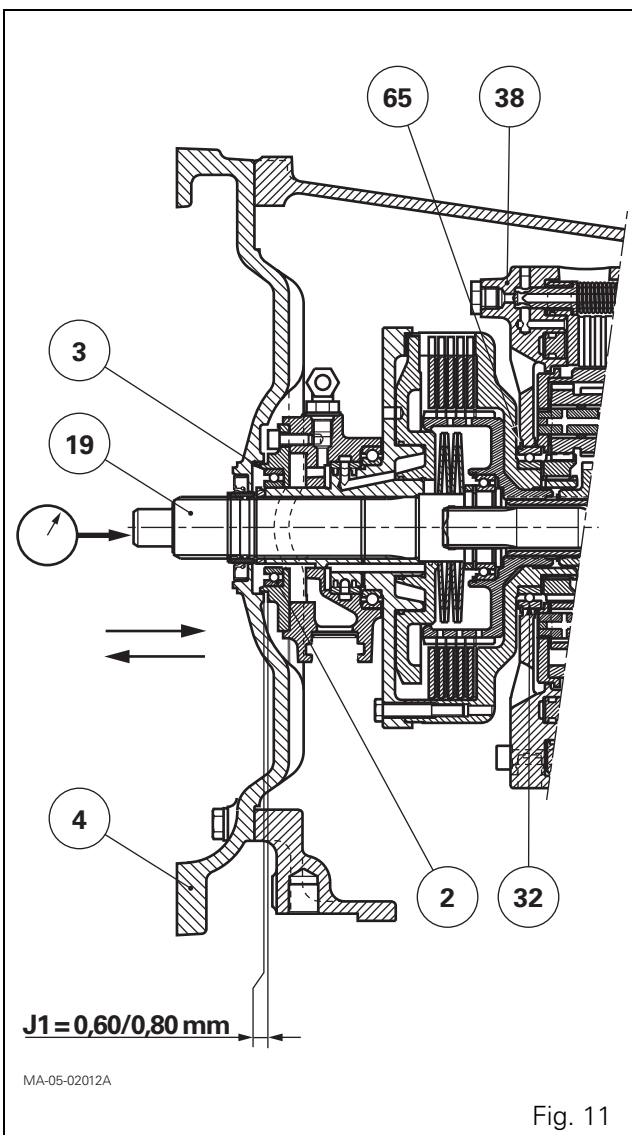

Fig. 11
This operation involves obtaining an axial clearance J1 of 0.60 to 0.80 mm between the pump cover plate (2) and the spacer (4) (Fig. 11).
61. Fit an approx. 2 mm thick shim (3) onto the cover plate (2) (Fig. 11).
62. Lubricate the lip of the seal (10). Protect the lip of the seal by fitting a guard (see chapter 3) on the splines of the shaft (19). Fit two guide studs on diametrically opposed sides of the gearbox housing and temporarily refit the spacer (4) without Loctite. Gradually tighten several screws.
63. Place a dial gauge at the end of the shaft (19) and check the clearance by moving the shaft sideways (Fig. 11).
IMPORTANT: Check that the snap ring (65) for the bearing (32) is correctly in contact with the cover plate (38) (Fig. 11).
64. Remove the spacer (4).
Depending on the reading previously obtained with the dial gauge, define a new thickness of shim(s) (3) in order to obtain a **J1 clearance between 0.60 and 0.80 mm** (Fig. 11).